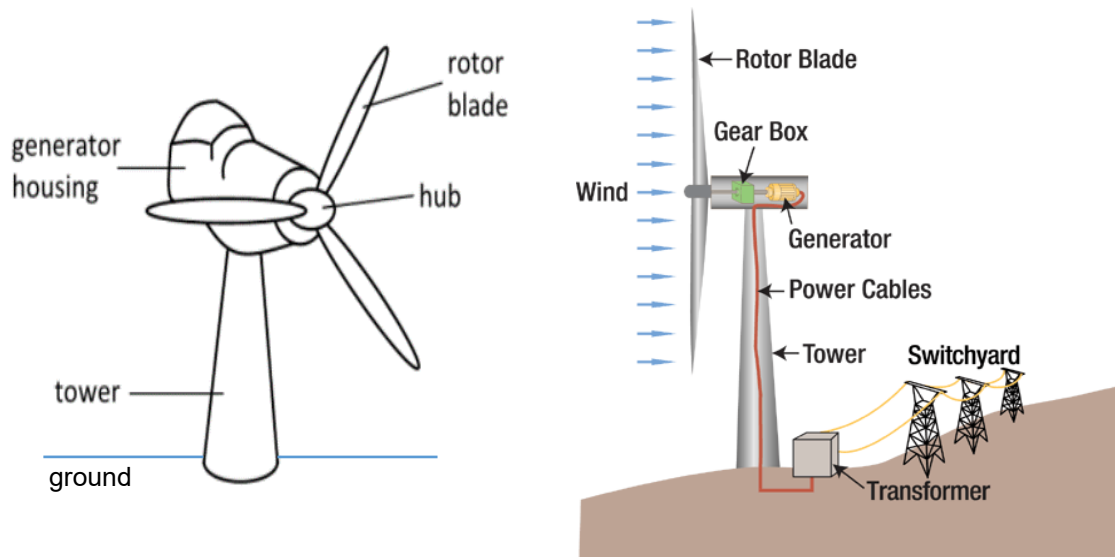

Fig. 7.1
- 7 One way to combat climate change is to use renewable energy sources such as wind power. Fig. 7.1 shows a wind turbine that is used to harness wind power for the generation of electric power.